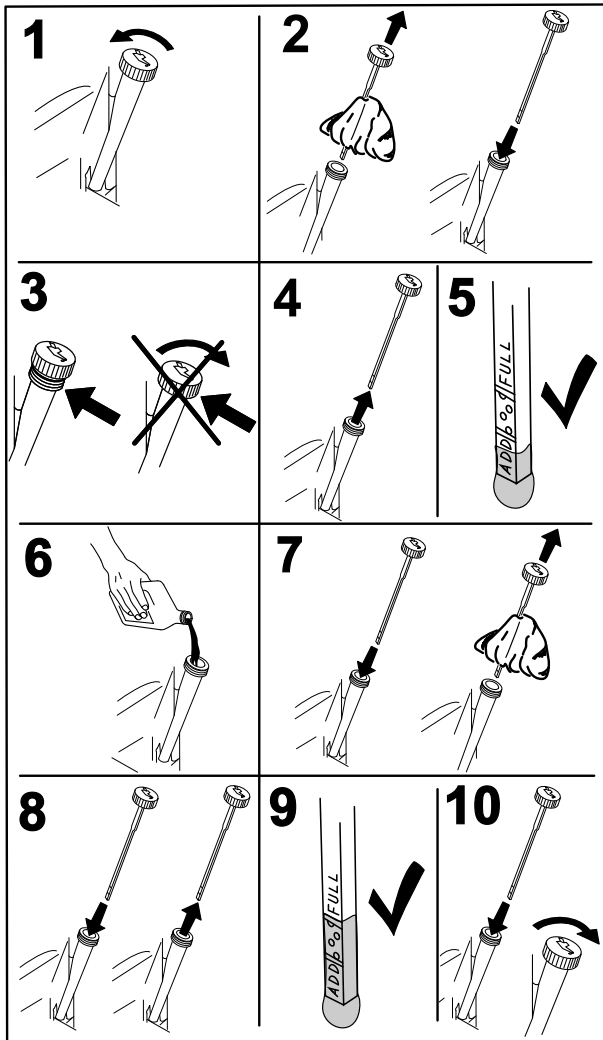

Figure 37
3. To keep dirt, grass clippings, etc., out of the engine, clean the area around the oil fill cap/dipstick before removing it (Figure 37).